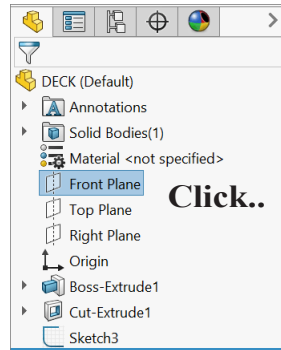

Fig. 25
Step 10. Click **Front Plane** in the Feature Manager to select plane, **Fig. 25**.